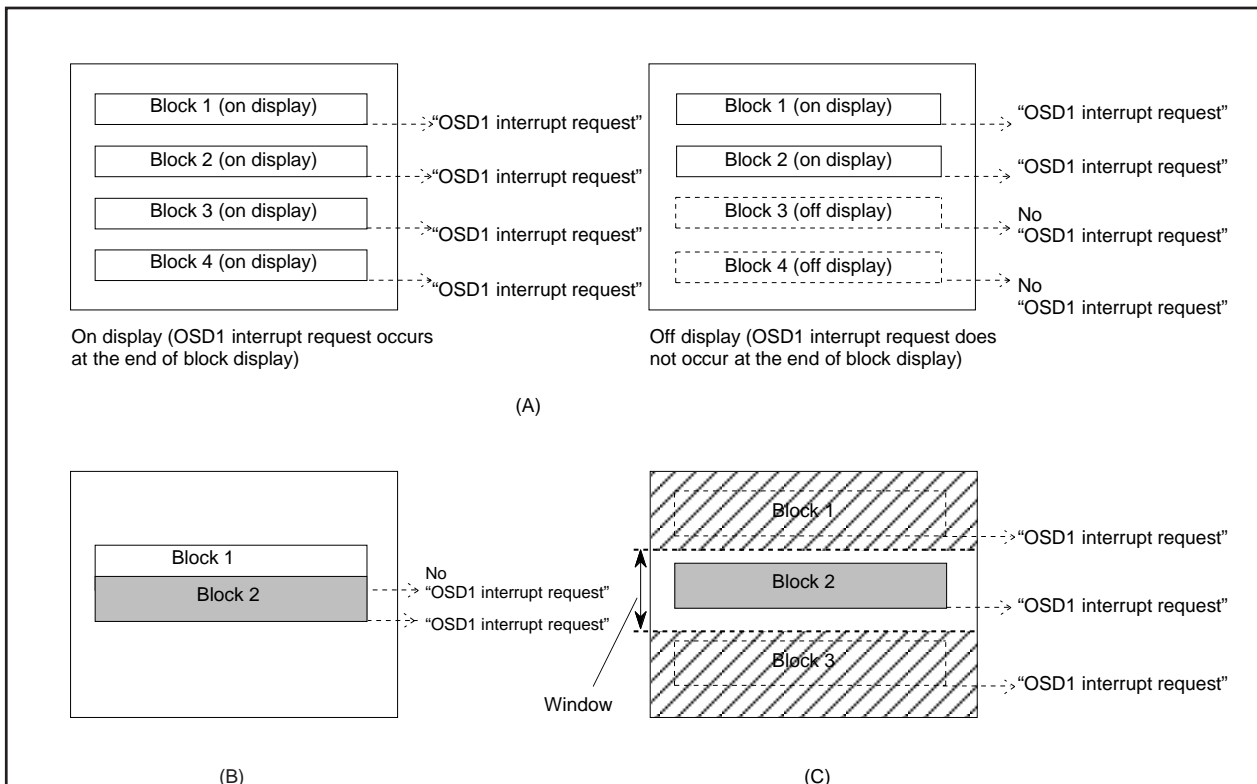

Figure 16.39 Note on occurrence of OSD1 interrupt
Notes 1: An OSD1 interrupt does not occur at the end of display when the block is not displayed. In other words, if a block is set to off display by the display control bit of the block control register *i* (addresses 0210₁₆ to 021F₁₆), an OSD1 interrupt request does not occur (refer to Figure 16.39 (A)).
2: When another block display appears while one block is displayed, an OSD1 interrupt request occurs only once at the end of the another block display (refer to Figure 16.39 (B)).
3: On the screen setting window, an OSD1 interrupt occurs even at the end of the CC mode block (off display) out of window (refer to Figure 16.39 (C)).